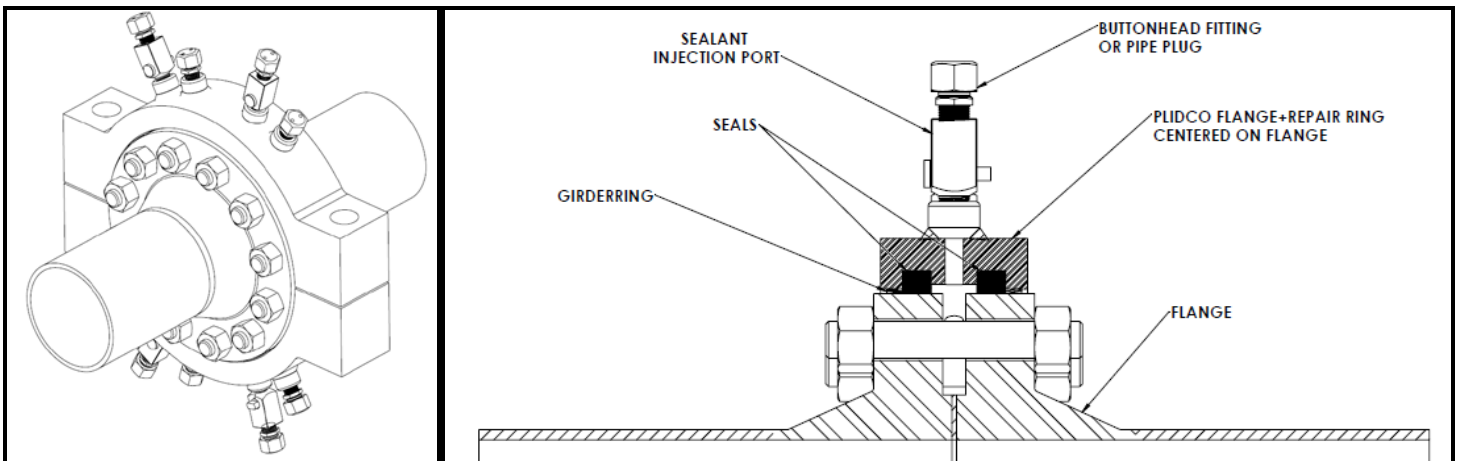

Figure 3
2. Assemble the PLIDCO Flange+Repair Ring around the flanges making sure the PLIDCO Flange+Repair Ring is centered over the gap between the flanges and the yellow painted ends are matched. It is recommended to orient the shell of the PLIDCO Flange+Repair Ring directly over the area of the flange set that has the most leakage. Figure 3 demonstrates how the PLIDCO Flange+Repair Ring should fit around the flanges as well as provide names and locations for the different parts that make up the fitting.